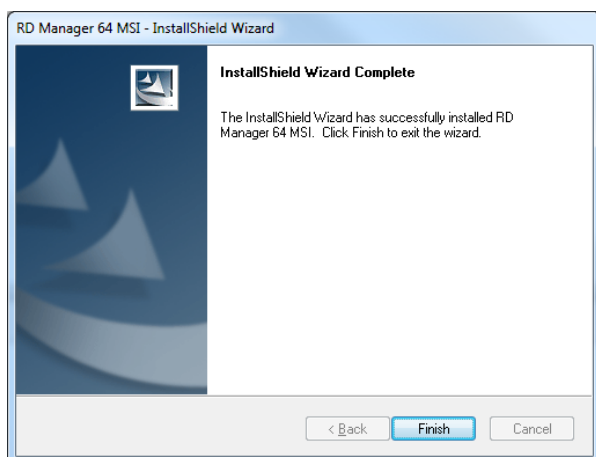

Figure 1.4 EULA Wizard
- Wait for the installation of RD Manager to complete, figure 1.4.